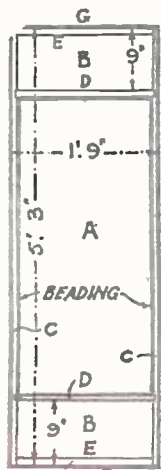
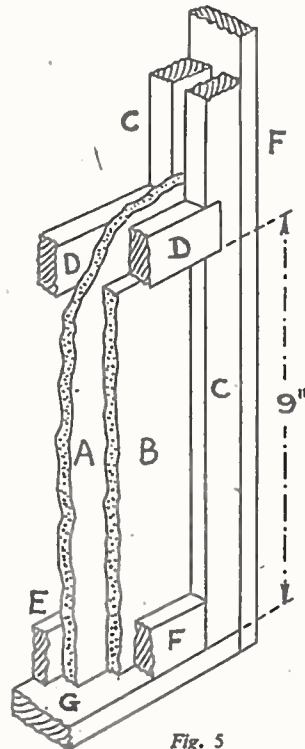

Fig. 2
Fig. 5
The upright edges of each piece (A) will have strips of planed wood ½ in. by ½ in. glued on each side as (C) in Fig. 2, and in the details Figs. 5 and 6. Before gluing them on, however, two notches must be cut in one edge of each upright ½ in. deep and ½ in. wide and 9ins. in from top and bottom to receive the cross rails (D). This is plainly seen in Fig. 5.
and bottom and each side of the leaf (see Fig. 2, and the details). Coat the board thoroughly and evenly with the glue and add about four ½ in. counter-sunk screws in the corners. It is suggested that good Scotch cake glue prepared in a glue kettle, and of thin consistency, be used throughout for the making of the screen.